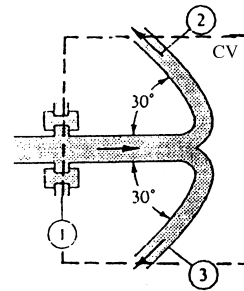

Fig. P3.62
3.62 Water at 20°C exits to the standard sea-level atmosphere through the split nozzle in Fig. P3.62. Duct areas are $A_1 = 0.02 \text{ m}^2$ and $A_2 = A_3 = 0.008 \text{ m}^2$. If $p_1 = 135 \text{ kPa}$ (absolute) and the flow rate is $Q_2 = Q_3 = 275 \text{ m}^3/\text{h}$, compute the force on the flange bolts at section 1.